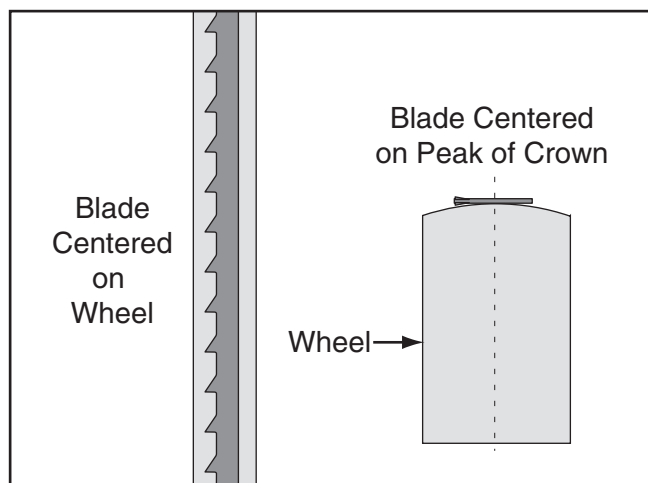

Figure 18. Center tracking profiles.
5. Spin the upper wheel by hand at least three times and watch how the blade rides on the crown of the wheel. Refer to **Figure 18** for an illustration of this concept.